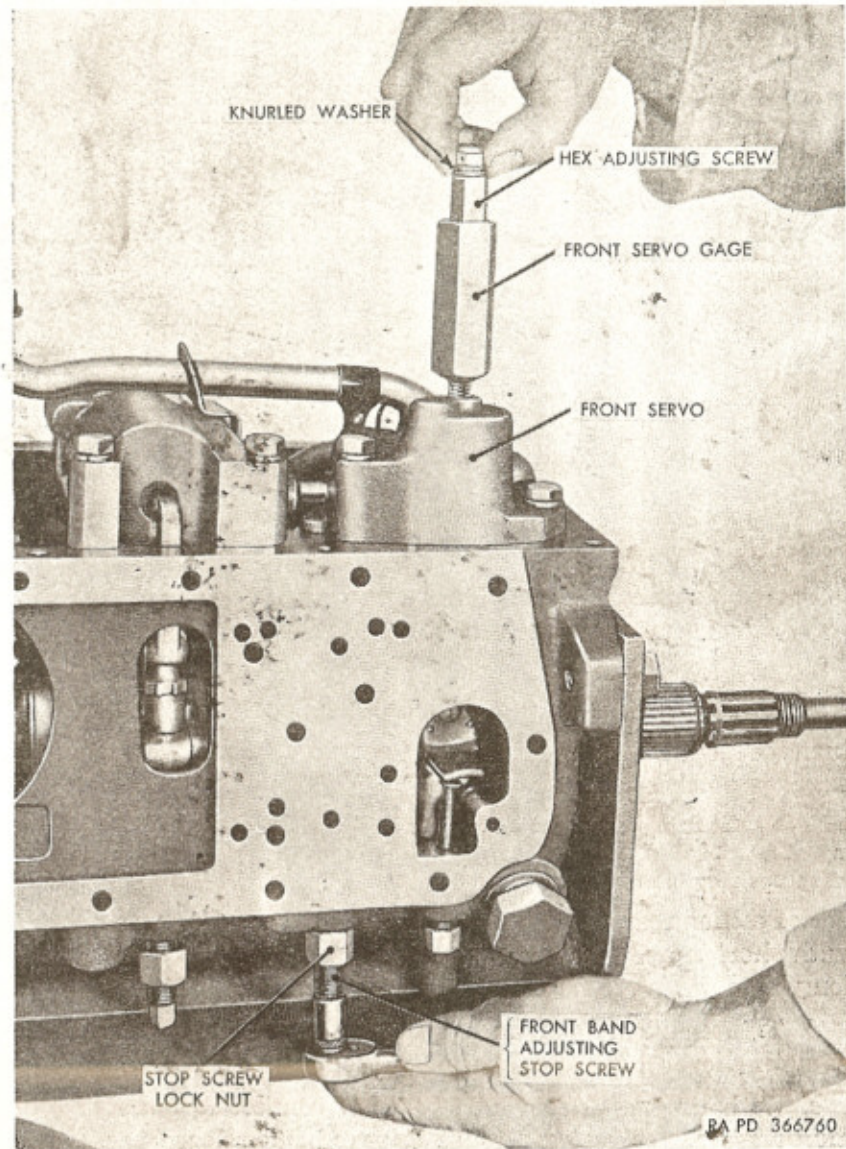

Figure 202. Adjusting front band using adjusting gage—8708127.
f. Back out adjusting screw of gage—8708127 (fig. 202) five complete turns; then tighten front band adjusting stop screw until knurled washer of gage is JUST FREE to turn. Keep front band centered on drum while tightening stop screw. After making this adjustment, front band adjusting rod should be approximately flush with case.